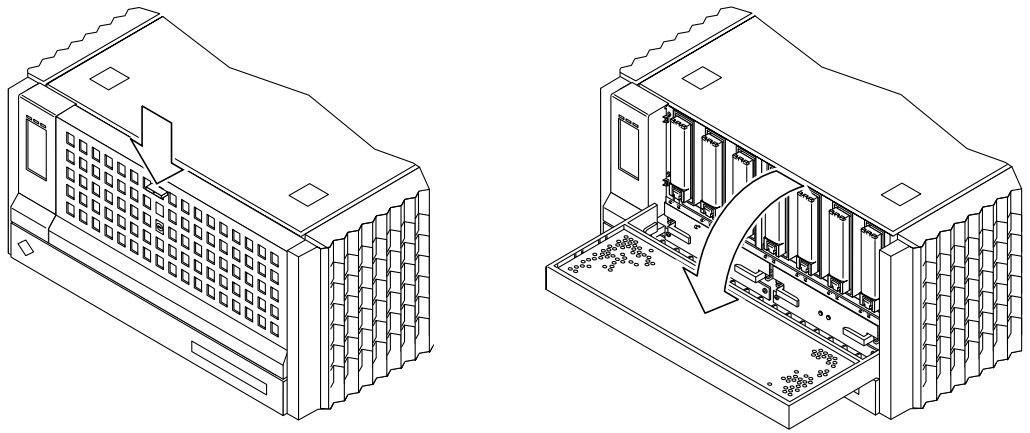

FIGURE 7-1 Opening a Door
4. Open the door (FIGURE 7-1).